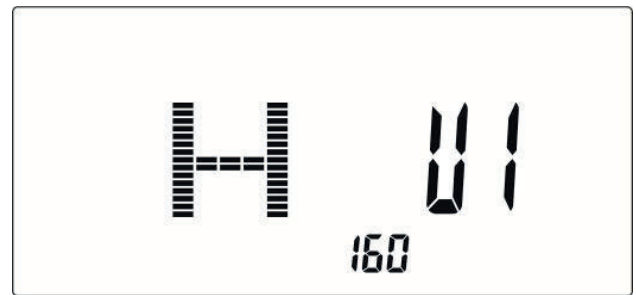

Figure 2
2. Enter your gender, age, height and weight (Fig. 2) and confirm each value with the encoder.